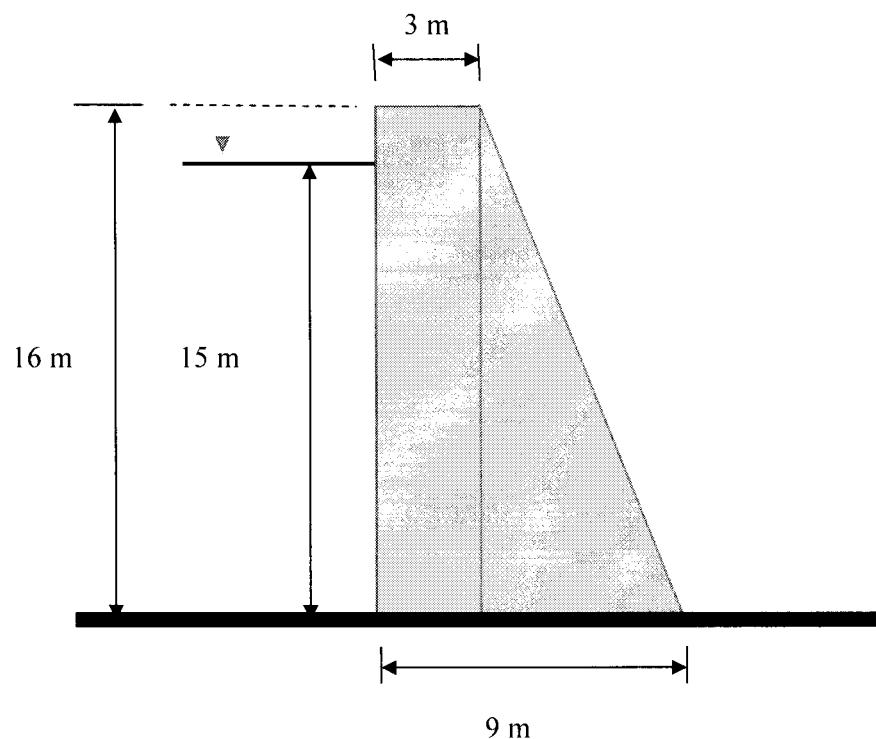

Fig.Q1c / Rajah Q1c
- c) Figure Q1c below shows a dam 3 meters wide on top, 9 meters wide at the bottom and 16 meters high constructed to retain water. If the water level reaches up to 15 meters high: